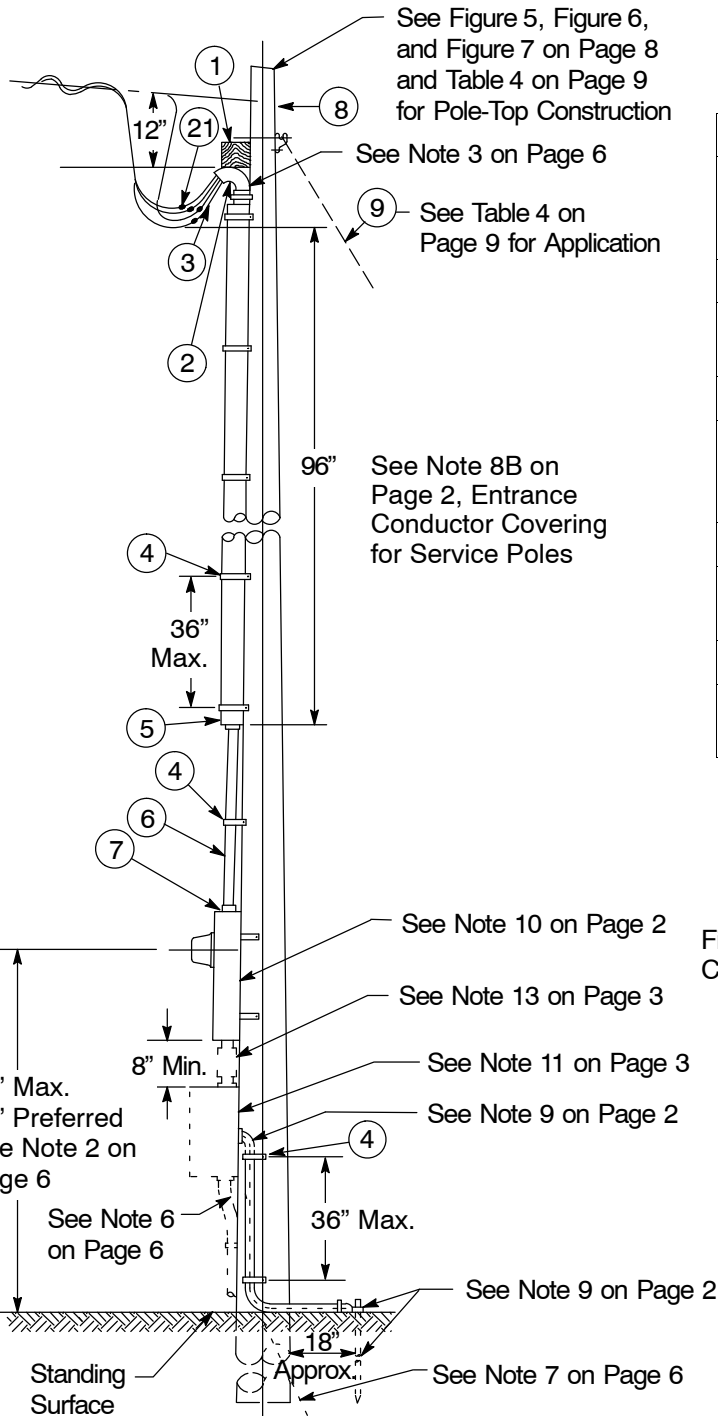

Figure 3
7. Alternate location for the ground rod to reduce exposure to agricultural equipment is shown in Figure 3 on Page 7.